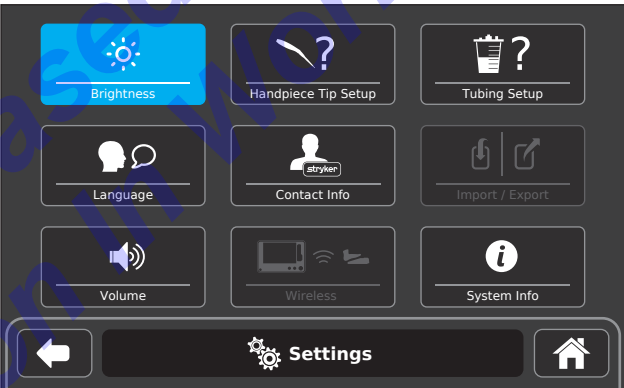

Figure 25 – Brightness Selection
- From the systems SETTINGS screen, touch the BRIGHTNESS button (Figure 25).